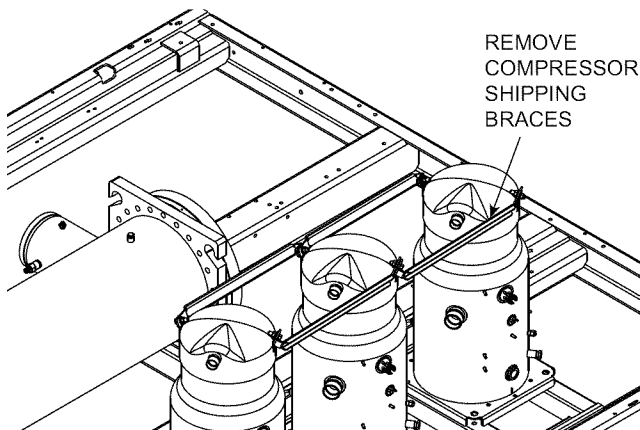

Fig. 27 — Compressor Shipping Braces Removal
Step 3 — Remove Compressor Shipping Braces — Each unit is equipped with compressor shipping braces tying each circuit together. Prior to installation these braces must be removed. Using a 15mm socket, loosen each bolt and nut on each compressor tab and remove all braces before unit start-up. Remove the compressor shipping braces attached between the compressors; see Fig. 27 for guidance.